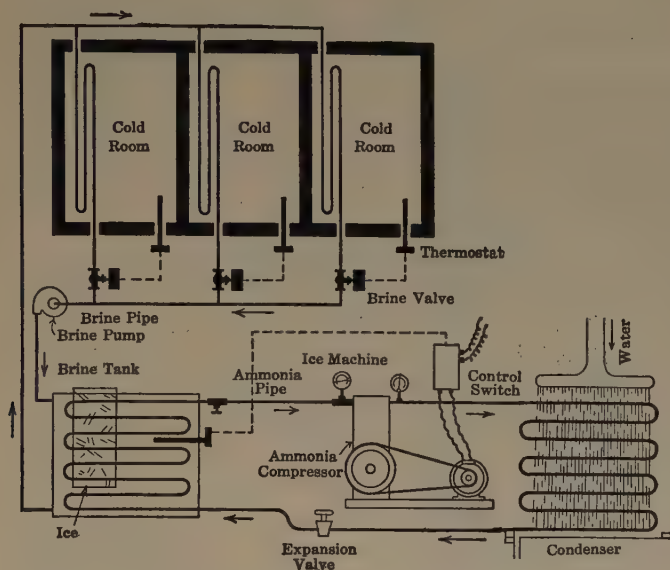

FIG. 177.—Refrigeration plant for cold storage and making ice.
**Manufacture of artificial ice.** The process of manufacturing ice can best be understood by reference to the diagram, Fig. 177. During the compression stroke of the pump, ammonia gas, which fills the cylinder of the pump, is forced into the cooling pipes. By repeated compression strokes the ammonia gas in the cooling pipes reaches sufficient pressure to liquefy. In liquefying, it gives out heat. The spray of water outside the pipes removes this heat. The cooling pipes are connected with coils of pipe, called *expansion pipe*, in a brine tank. The liquid ammonia passes through an expansion valve into the expansion pipe, which is connected to the pump. During the expansion stroke of the pump, a